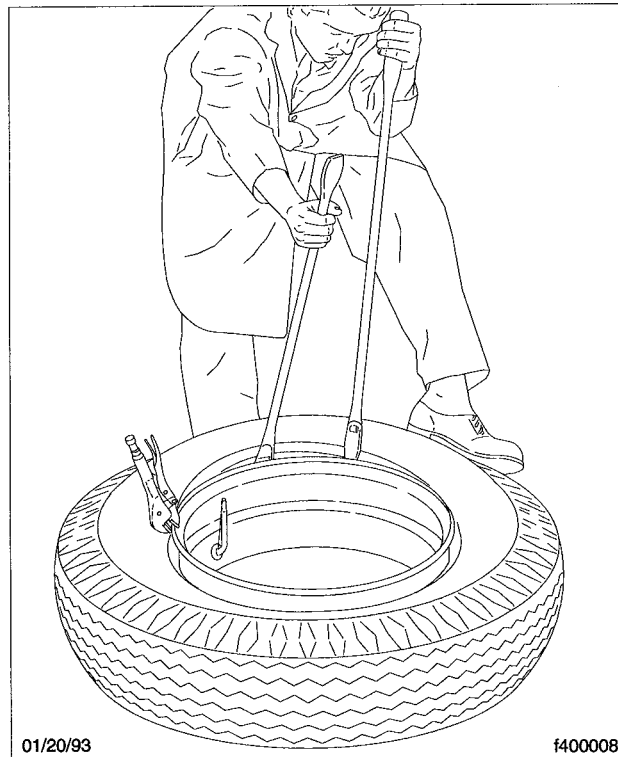

Fig. 7, Using a Second Tire Iron
- 6.4 Start the upper bead over the rim flange and into the rim well by standing on the tire. If necessary, push a section of the bead into the rim well, and anchor it by attaching Vise-Grip® pliers to the rim flange (snub side toward the tire). Using the spoon end of the tire iron, with the stop toward the rim, work around the bead. See **Fig. 7**. Proceed in small increments until the bead slips over the flange and into the rim well. If necessary, insert a second tire iron and relubricate the last 8 inches (20 cm) of bead.